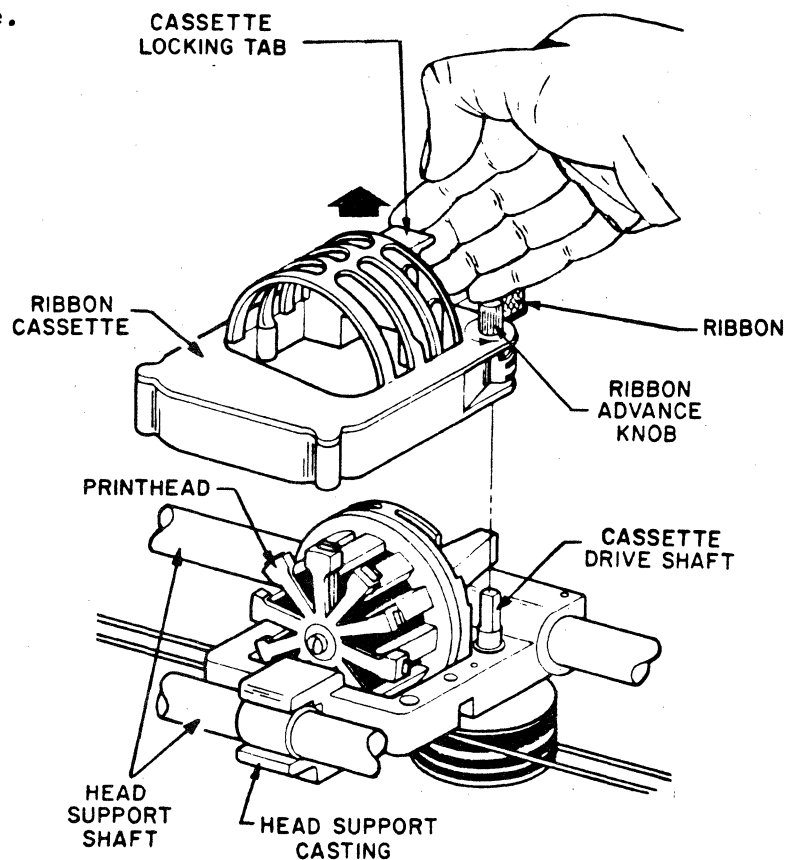

Figure 70-4. Ribbon Cassette Replacement
- 2) Place finger tips under cassette locking tab and pull it up until a slight click is heard indicating that cassette has disengaged from head support and pulley assembly (figure 70-4).